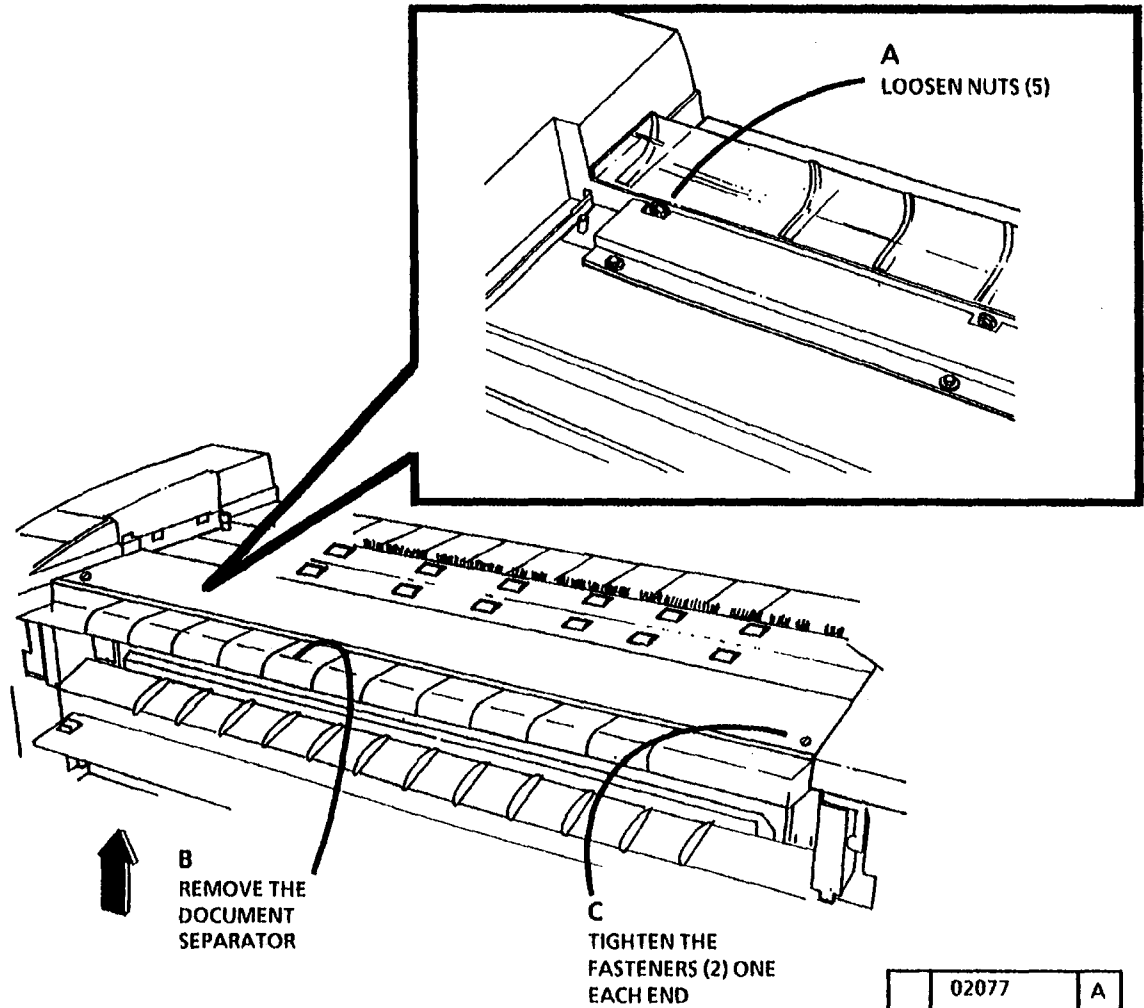

Figure 4. Remove the Document Separator
9. (Figure 4): Remove the Document Separator.